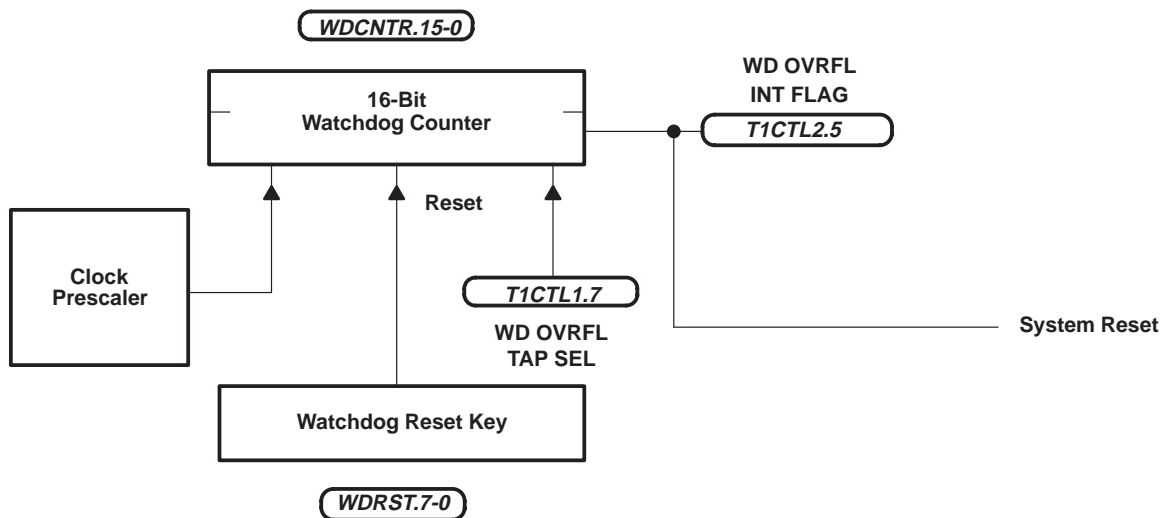

Figure 9. Hard Watchdog
- Hard watchdog configuration (see Figure 9) for mask-ROM devices only: